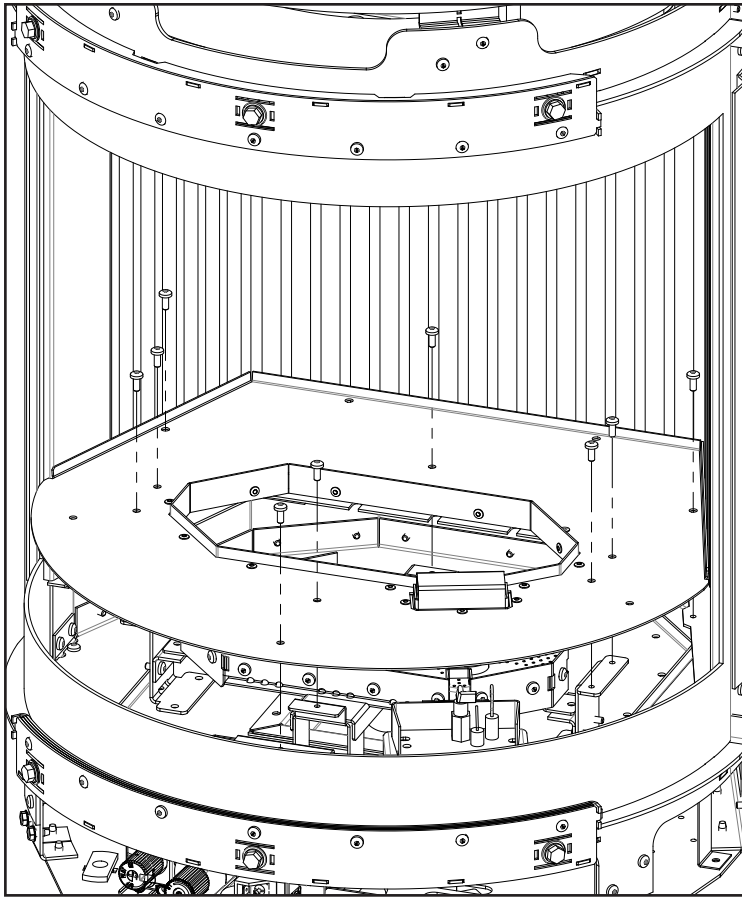

Figure 43: Burner Platform Removal
To remove the burner, first remove the door frame and glass (refer to page 17 and page 18 for details). Remove the nine (9) screws securing the burner platform using a T20 screwdriver (see Figure 43).